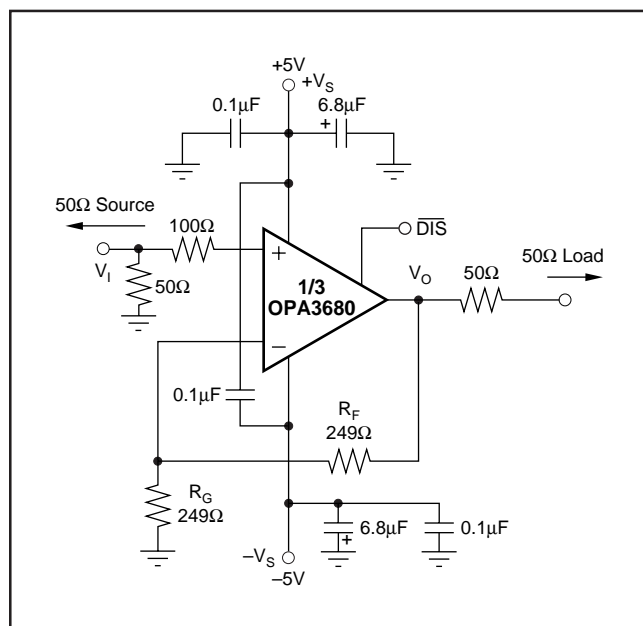
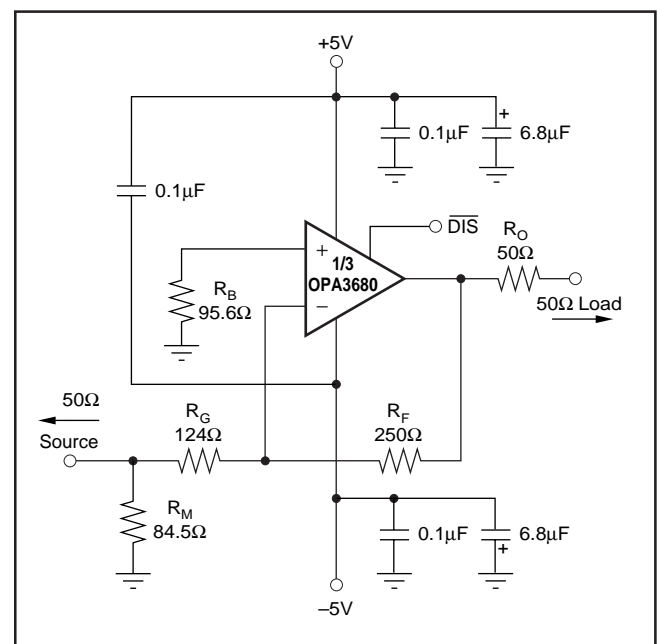

FIGURE 1. DC-Coupled, $G = +2$, Bipolar Supply, Specification and Test Circuit.
FIGURE 9. Gain of -2 Example Circuit.
At $T_A = +25^\circ C$, $G = +2$, $R_F = 250\Omega$, and $R_L = 100\Omega$, unless otherwise noted. See Figure 1.
Figure 1 shows the DC-coupled, gain of +2, dual power supply circuit configuration used as the basis of the $\pm 5\text{V}$ Specifications and Typical Performance Curves. For test purposes, the input impedance is set to 50Ω with a resistor to ground and the output impedance is set to 50Ω with a series output resistor. Voltage swings reported in the specifications are taken directly at the input and output pins, while output powers (dBm) are at the matched 50Ω load. For the circuit of Figure 1, the total effective load will be $100\Omega \parallel 498\Omega$. The disable control line is typically left open to guarantee normal amplifier operation. Two optional components are included in Figure 1. An additional resistor (100Ω) is included in series with the non-inverting input. Combined with the 25Ω DC source resistance looking back towards the signal generator, this gives an input bias current cancelling resistance that
A good rule of thumb is to target the parallel combination of R_F and R_G (Figure 1) to be less than approximately 125Ω . The combined impedance $R_F \parallel R_G$ interacts with the inverting input capacitance, placing an additional pole in the feedback network and thus, a zero in the forward response. Assuming a $3pF$ total parasitic on the inverting node, holding $R_F \parallel R_G < 125\Omega$ will keep this pole above $400MHz$. By itself, this constraint implies that the feedback resistor R_F can increase to several $k\Omega$ at high gains. This is acceptable as long as the pole formed by R_F and any parasitic capacitance appearing in parallel with it is kept out of the frequency range of interest.
Voltage-feedback op amps exhibit decreasing closed-loop bandwidth as the signal gain is increased. In theory, this relationship is described by the Gain Bandwidth Product (GBP) shown in the specifications. Ideally, dividing GBP by the non-inverting signal gain (also called the Noise Gain, or NG) will predict the closed-loop bandwidth. In practice, this only holds true when the phase margin approaches 90° , as it does in high gain configurations. At low gains (increased feedback factors), most amplifiers will exhibit a more complex response with lower phase margin. The OPA3680 is compensated to give a slightly peaked response in a non-inverting gain of 2 (Figure 1). This results in a typical gain of +2 bandwidth of $220MHz$, far exceeding that predicted by dividing the $300MHz$ GBP by 2. Increasing the gain will cause the phase margin to approach 90° and the bandwidth to more closely approach the predicted value of (GBP/NG) . At a gain of +10, the $30MHz$ bandwidth shown in the Typical Specifications agrees with that predicted using the simple formula and the typical GBP of $300MHz$.
Frequency response in a gain of +2 may be modified to achieve exceptional flatness simply by increasing the noise gain to 2.5. One way to do this, without affecting the +2 signal gain, is to add a 453Ω resistor across the two inputs in the circuit of Figure 1. A similar technique may be used to reduce peaking in unity gain (voltage follower) applica-
Since the OPA3680 is a general purpose, wideband voltage feedback op amp, all of the familiar op amp application circuits are available to the designer. Inverting operation is one of the more common requirements and offers several performance benefits. Figure 9 shows a typical inverting configuration where the I/O impedances and signal gain from Figure 1 are retained in an inverting circuit configuration.
advantage that the noise gain becomes equal to 2 for a 50Ω source impedance—the same as the non-inverting circuits considered above. However, the amplifier output will now see the 100Ω feedback resistor in parallel with the external load. In general, the feedback resistor should be limited to the 100Ω to 1.5kΩ range. In this case, it is preferable to increase both the R_F and R_G values as shown in Figure 9 and then achieve the input matching impedance with a third resistor (R_M) to ground. The total input impedance becomes the parallel combination of R_G and R_M .
The second major consideration, touched on in the previous paragraph, is that the signal source impedance becomes part of the noise gain equation and hence influences the bandwidth. For the example in Figure 9, the R_M value combines in parallel with the external 50Ω source impedance, yielding an effective driving impedance of $50\Omega \parallel 84.5\Omega = 31.4\Omega$. This impedance is added in series with R_G for calculating the noise gain (NG). The resultant NG is 2.6 for Figure 9, as opposed to only 2 if R_M could be eliminated as discussed above. The bandwidth will therefore be slightly lower for the gain of -2 circuit of Figure 9 than for the gain of $+2$ circuit of Figure 1.
The third important consideration in inverting amplifier design is setting the bias current cancellation resistor on the non-inverting input (R_B). If this resistor is set equal to the total DC resistance looking out of the inverting node, the output DC error, due to the input bias currents, will be reduced to (Input Offset Current) $\cdot R_F$. If the 50Ω source impedance is DC-coupled in Figure 9, the total resistance to ground on the inverting input will be 155Ω. Combining this in parallel with the feedback resistor gives the $R_B = 95.6\Omega$ used in this example. To reduce the additional high frequency noise introduced by this resistor, it is sometimes bypassed with a capacitor. As long as $R_B < 350\Omega$, the capacitor is not required since the total noise contribution of all other terms will be less than that of the op amp's input noise voltage. As a minimum, the OPA3680 requires an R_B value of 50Ω to damp out parasitic-induced peaking—a direct short to ground on the non-inverting input runs the risk of a very high frequency instability in the input stage.
The distortion plots show which changes in operation will improve distortion. Increasing the load impedance improves distortion directly. Remember that the total load includes the feedback network; in the non-inverting configuration (Figure 1) this is sum of $R_F + R_G$, while in the inverting configuration (Figure 9), it is just R_F . Also, providing an additional supply decoupling capacitor (0.1μF) between the supply pins (for bipolar operation) improves the 2nd-order distortion slightly (3dB to 6dB).
Evaluating these two equations for the OPA3680 circuit and component values shown in Figure 1 will give a total output spot noise voltage of $11\text{nV}/\sqrt{\text{Hz}}$ and a total equivalent input spot noise voltage of $5.5\text{nV}/\sqrt{\text{Hz}}$. This is including the noise added by the bias current cancellation resistor (100Ω) on the non-inverting input. This total input-referred spot noise voltage is only slightly higher than the $4.8\text{nV}/\sqrt{\text{Hz}}$ specification for the op amp voltage noise alone. This will be the case as long as the impedances appearing at each op amp input are limited to the previously recommend maximum value of 125Ω . Keeping both ($R_F \parallel R_G$) and the non-inverting input source impedance less than 125Ω will satisfy both noise and frequency response flatness considerations. Since the resistor-induced noise is relatively negligible, additional capacitive decoupling across the bias current cancellation resistor (R_B) for the inverting op amp configuration of Figure 9 is not required.
The balanced input stage of a wideband voltage feedback op amp allows good output DC accuracy in a wide variety of applications. The power supply current trim for the OPA3680 gives even tighter control than comparable products. Although the high speed input stage does require relatively high input bias current (typically $14\mu\text{A}$ out of each input terminal), the close matching between them may be used to reduce the output DC error caused by this current. The total output offset voltage may be considerably reduced by matching the DC source resistances appearing at the two inputs. This reduces the output DC error due to the input bias currents to the offset current times the feedback resistor. Evaluating the configuration of Figure 1, using worst-case $+25^\circ\text{C}$ input offset voltage and current specifications, gives